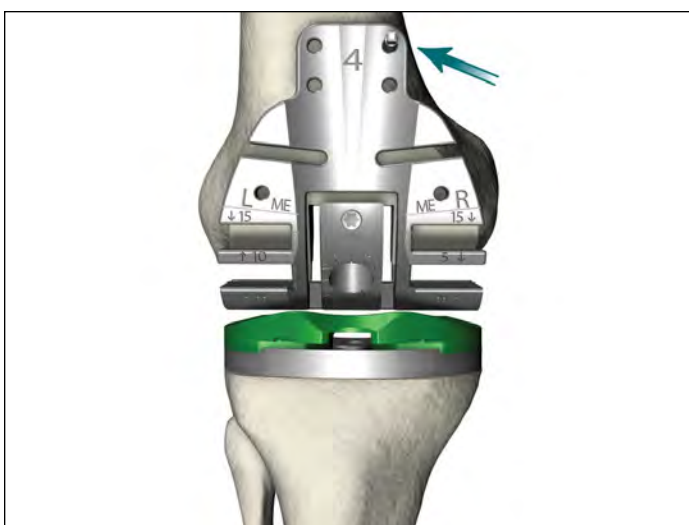

Figure 59
- With the joint line restored, a preliminary trial assessment should be conducted with the trial tibial components in place. Select the appropriate thickness TCG Tibial Insert Trial and place it onto the trial tibia (**Figure 59**). Select the insert that provides varus/valgus stability in full extension.